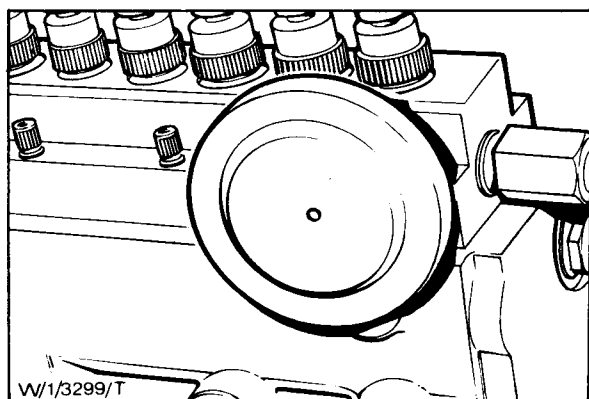

Fig. 84 - The Damper Installed (Dover Naturally Aspirated Only)
10. Dover (naturally aspirated only) - Screw in and tighten the fuel gallery damper and tighten securely (Fig. 84).